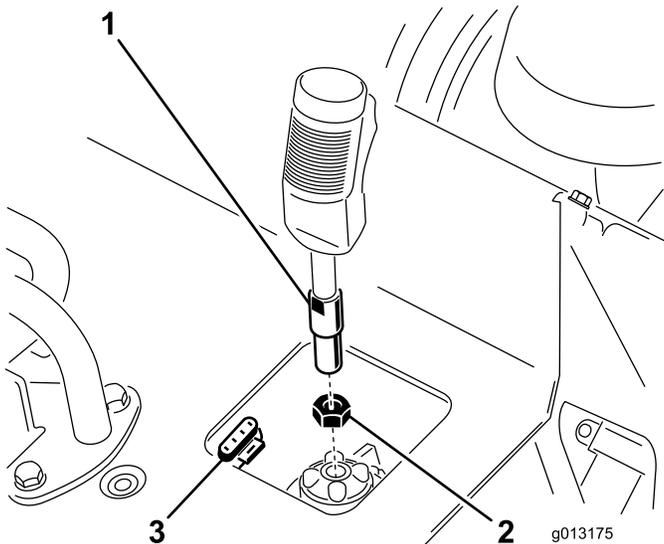

Figure 4
1. Thread the jam nut onto the grinder control lever (Figure 4).
3. With the trigger oriented forward, tighten the jam nut against the receptacle to secure the lever in place (Figure 4).
4. Connect the wire on the lever to the 4-pin connector under the control panel (Figure 4).
2. Thread the grinder control lever into the receptacle on the control panel (Figure 4).